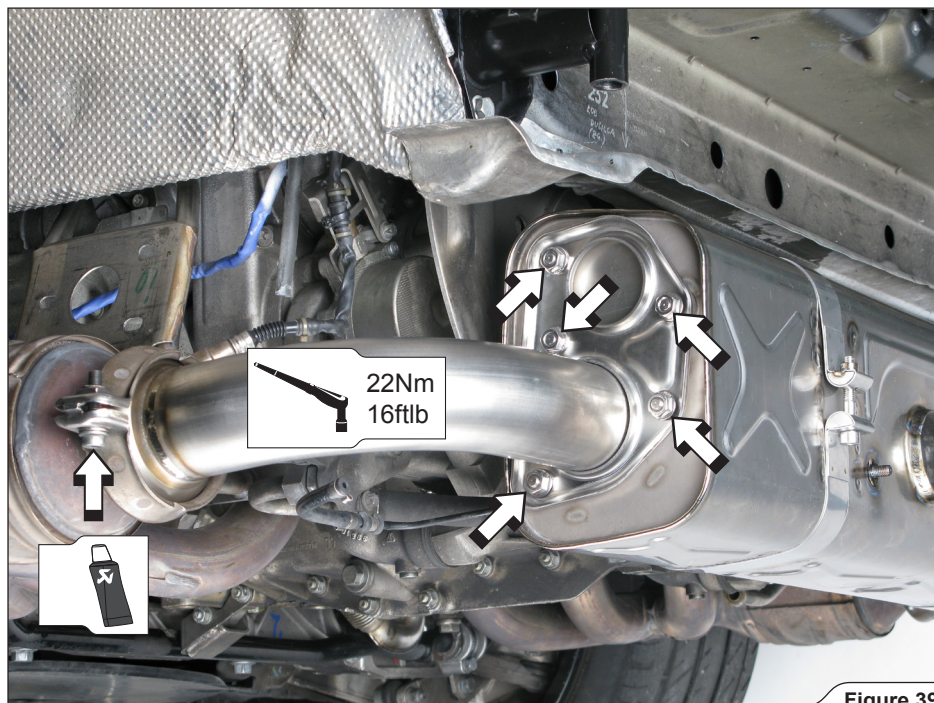

Figure 39
21. **For Sports Cup:** align the link pipes and tighten all M8 nuts on Akrapovič muffler flanges and stock clamps to a specified torque (**Figure 39**).